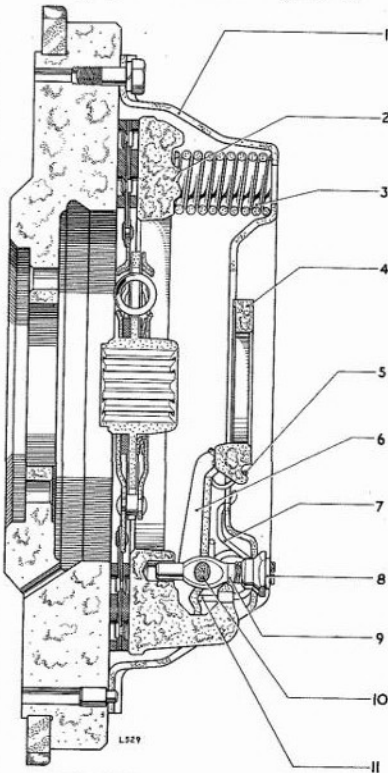

Fig. D.1. Sectional view of the clutch assembly
The clutch cover assembly (see Fig. D.1) consists of a pressed steel cover (1) and a cast iron pressure plate (2), loaded by thrust springs (3). Assembled with the cover are release levers (6), which pivot on floating pins (10), retained by eyebolts (9). Adjustment nuts (8) are screwed on to the eyebolts and secured by staking. Struts (11) are interposed between lugs on the pressure plate and the outer end of the release levers. Anti-rattle springs (7) restrain the release levers, and retainer springs (5) connect the release lever plate (4) to the levers.